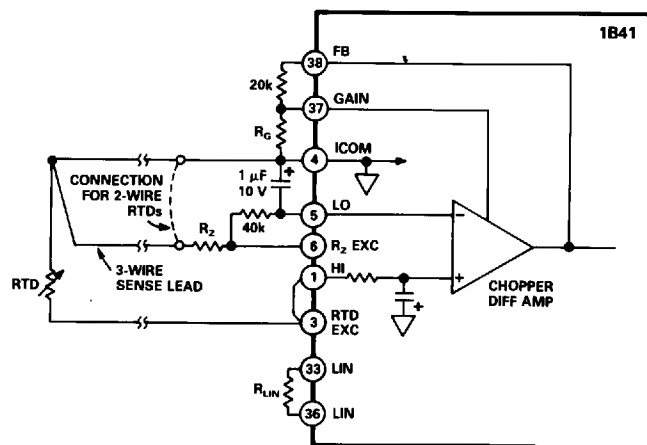

Figure 1. 1B41 Basic Hookup
1All specifications use the test circuit of Figure 1.
**Range Setting:** The gain of the 1B41 is controlled on the input side by a pair of user provided resistors (see Figure 1). A feedback resistor of 20 k $\Omega$   $\pm 1\%$  is required between the feedback pin (Pin 38) and the gain pin (Pin 37). The gain setting resistor is connected between the gain pin (Pin 37) and input side common (Pin 4).
For 2-wire RTDs, ICOM (Pin 4) can be connected as shown in Figure 1. This does not compensate for lead wire resistance.